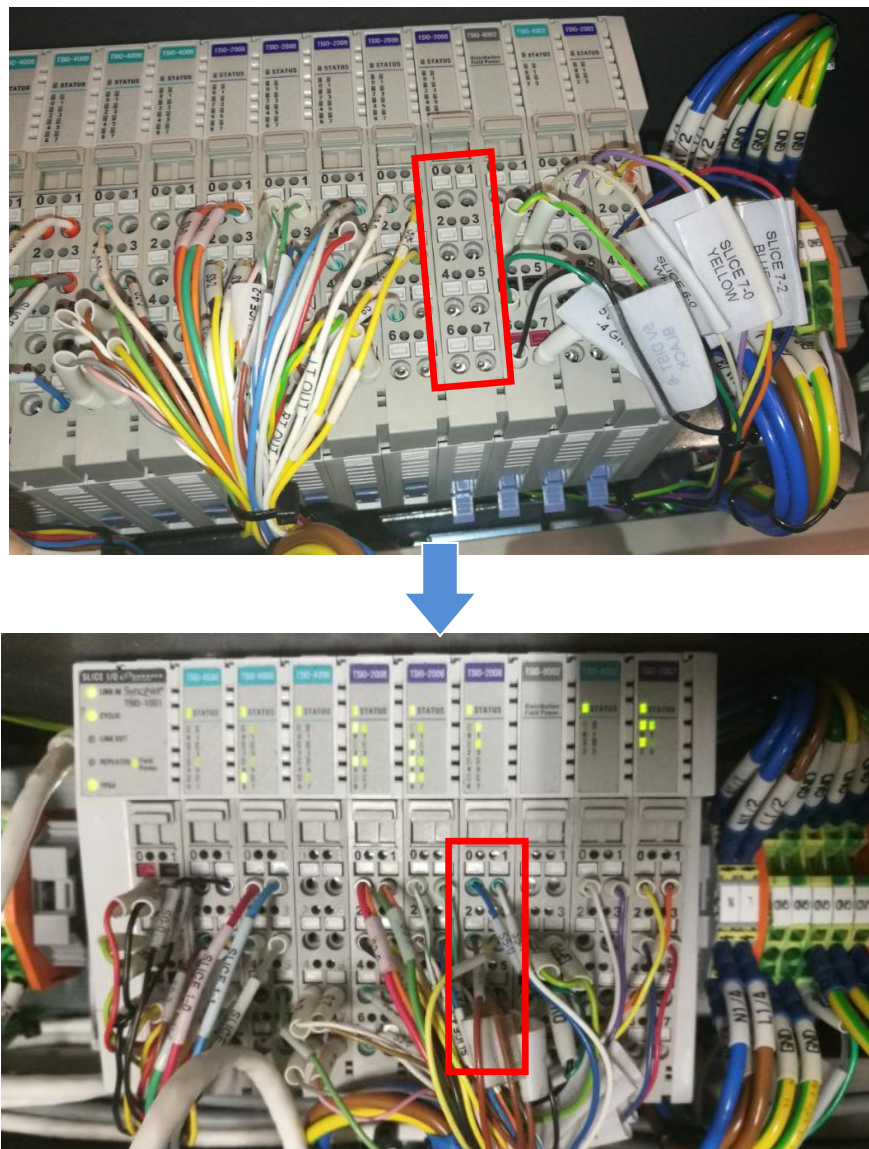

Figure 23
25. While probe the Tiny Square Button, gently insert IO Cable respectively by refer to Figure 23